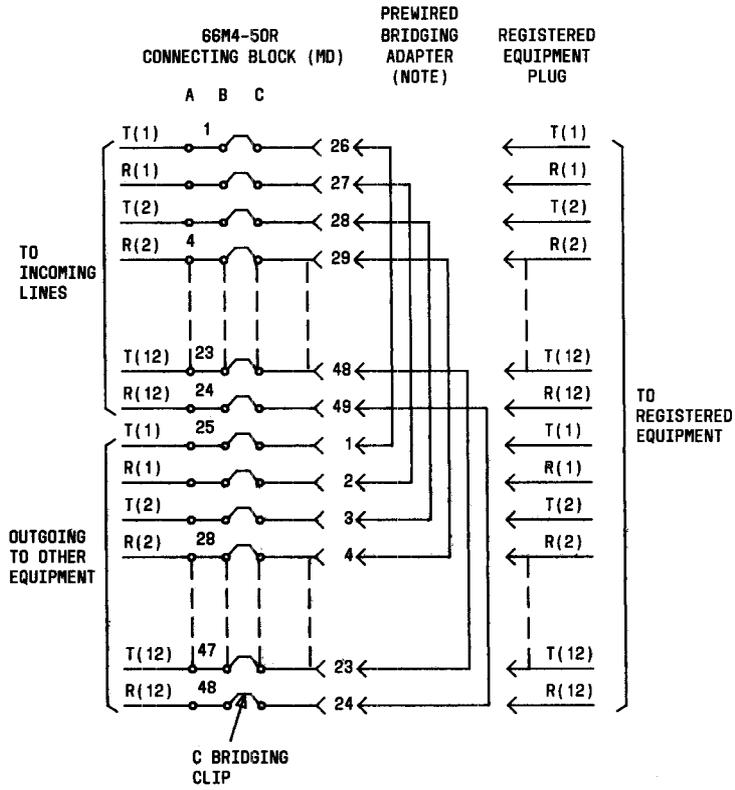

Fig. 1—Schematic for USOC RJ71C Using 66M4-50R Connecting Block (MD)
- (1) Install the 66M4-50R connecting block (MD) in a location mutually agreeable to the TELCO and the customer. The 66M4-50R connecting block (MD) is applicable to color-coded modular backboards, but a size variance will not permit mounting of additional 66M-type blocks butting directly above or below it.
- (2) Connect the incoming lines and outgoing lines to other equipment on column A as shown in Table A. Place C bridging clips between columns B and C on all rows — both incoming and outgoing. Install cover on connecting block. Fasten the bridging adapter to one of the clips on the 89C bracket using the fastener supplied.
- (3) Plug the bridging adapter into the ribbon connector and test all connected lines for continuity. If the customer is not ready, secure the bridging adapter in place. If the customer has the registered equipment wired at the time of installation, have them connect their plug to the ribbon connector and secure in place. Internal wiring of the 66M4-50R connecting block (MD) is shown in Fig. 1.